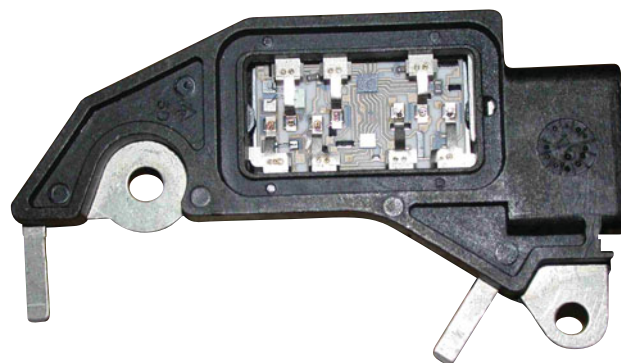

FIGURE 19-18 A typical electronic voltage regulator with the cover removed showing the circuits inside.
- The zener diode is a major electronic component that makes voltage regulation possible. A zener diode blocks current flow until a specific voltage is reached, then it permits current to flow. Alternator voltage from the stator and diodes is first sent through a thermistor, which changes resistance with temperature, and then to a zener diode. When the upper-limit voltage is reached, the zener diode conducts current to a transistor, which then opens the field (rotor) circuit. The electronics are usually housed in a separate part inside the alternator. ● **SEE FIGURES 19-18 AND 19-19.**